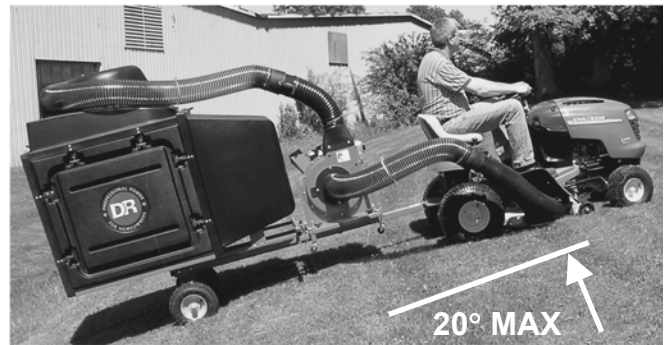

Figure 30
- Do not use the DR LEAF and LAWN VACUUM on slopes greater than 20 degrees. Doing so could result in serious injury or damage to your machine (*Figure 30*).
- Travel up and down slopes (*Figure 30*) and avoid going across slopes. This is the same recommendation for mowing with your lawn tractor alone.